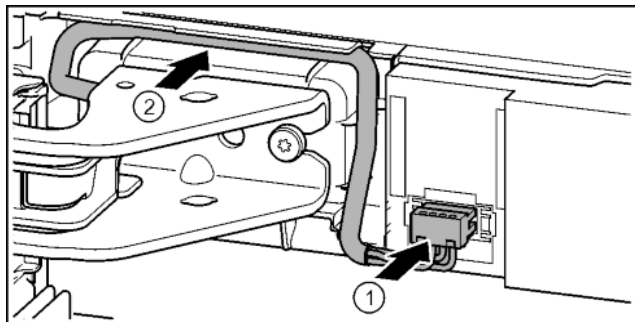

Fig. 37
- ▶ Engage the plug above the upper bearing bracket and carefully place the cable strands into the channel. *Fig. 37 (1)*
- ▶ Carefully position the grey cable in the guide above the top bearing bracket. *Fig. 37 (2)*